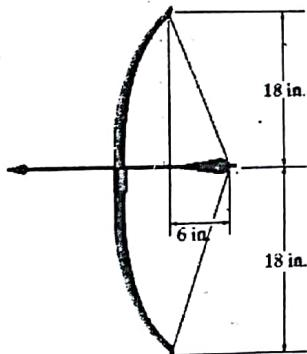

Fig. 3
3. If the unstretched length of the bowstring is 35.5 in., determine the average normal strain in the string when it is stretched to the position shown in Fig. 3. [ $\epsilon_{avg} = 0.0689\text{in/in}$ ]